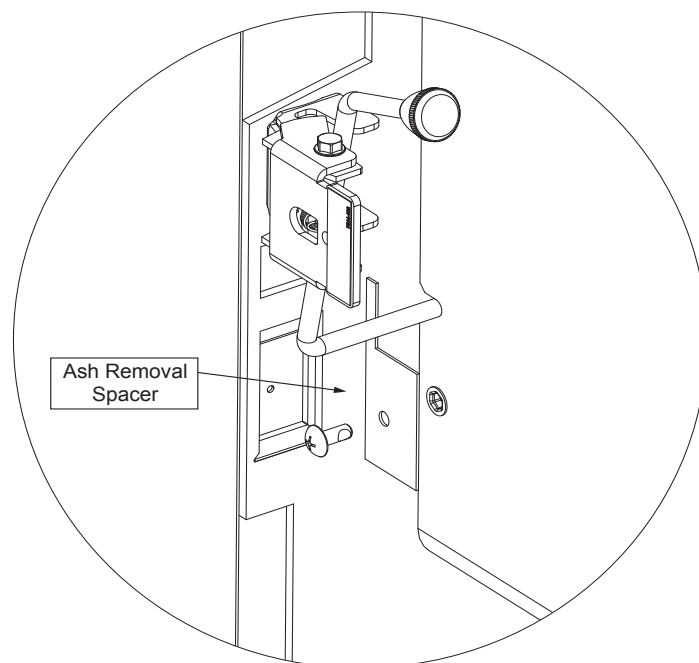

Figure 17.4
3. Install ARS Spacer on left hand side with one bolt using Phillips head screwdriver (**Figure 17.4**).
2. Install ARS Spacer on left hand side with one bolt using Phillips head screwdriver (**Figure 17.4 on page 17**).